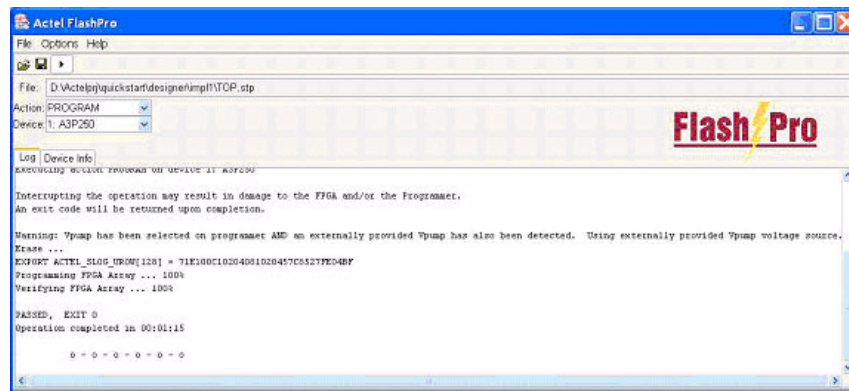

Figure 7-46. Successfully Programmed Device
5. Click **Execute** to start programming. The progress of the programming action displays in the Log window. The message 'Exit 0' indicates that the device has successfully been programmed, as shown in Figure 7-46.